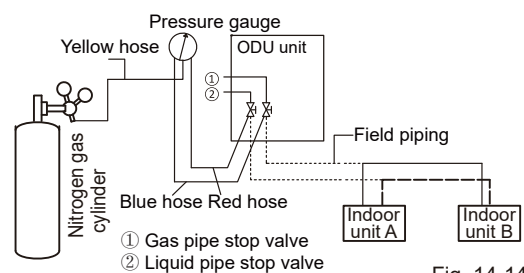

Fig. 14-14
- Use blind plugs to block all liquid (gas) side openings, except for the opening at the indoor unit which is furthest from the outdoor units ("Indoor unit A" in Fig.14-14).